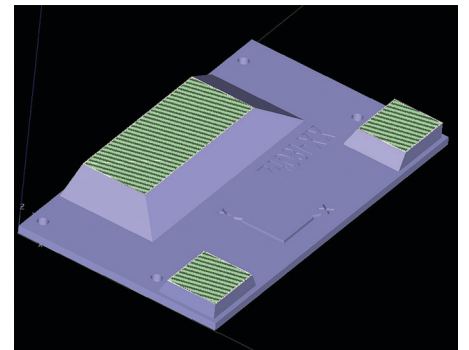

Figure 44: Fixture with Solid-normal fill.
4.2.1. Solid-normal (Figure 44)